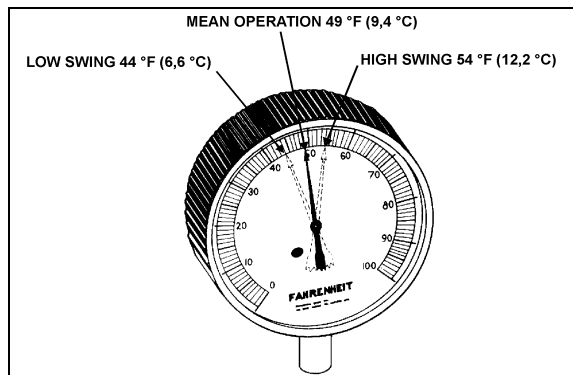

FIGURE 34: HIGH & LOW SWING TEMPERATURE AT REMOTE BULB²²⁰⁴⁷
6. Check approximately 5 readings of pressure at 2-minute intervals and convert to temperature using the temperatures & pressures table. Likewise check the temperature reading at the remote bulb at the same 2-minute intervals and record the low and high swing readings of the needle (refer to Figure 34).
Example of readings taken at Figure 34: